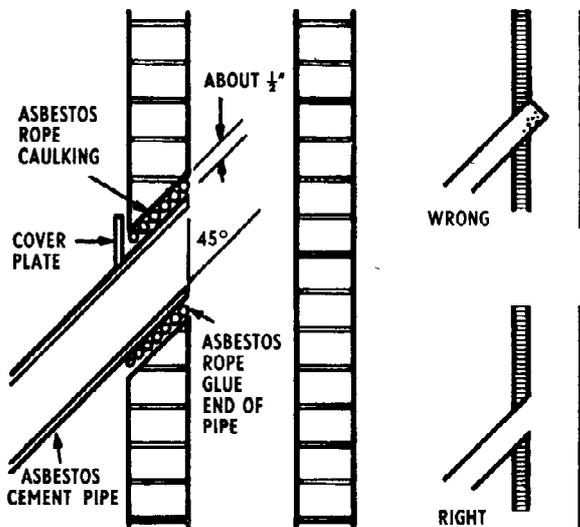

Figure 7
**Connecting the Chimney** Connect the flue outlet of the boiler to the chimney in accordance with building regulations (see Fig. 7). The connection pipe should have an accessible cleaning door. A fluc break is incorporated in the boiler.